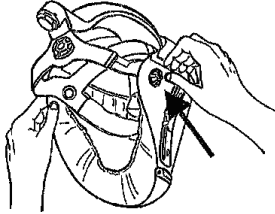
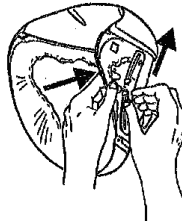

Figure 12a
Figure 12b
4.2.2. Exchanging the JUNIOR A face seal (Figure 12a – Loosen headband screws and Figure 12b – Bend visor, slide visor clamp up, and exchange the face seal).